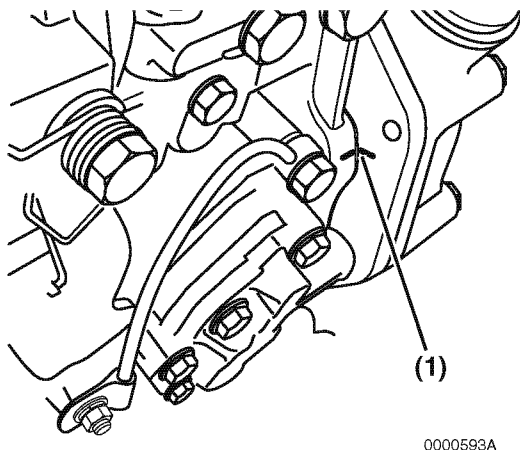

Figure 7-19
22. Locate the mark stamped into the upper outside mounting boss of the fuel injection pump. Highlight this mark and make a corresponding mark on the gear case or front plate (**Figure 7-19, (1)**).